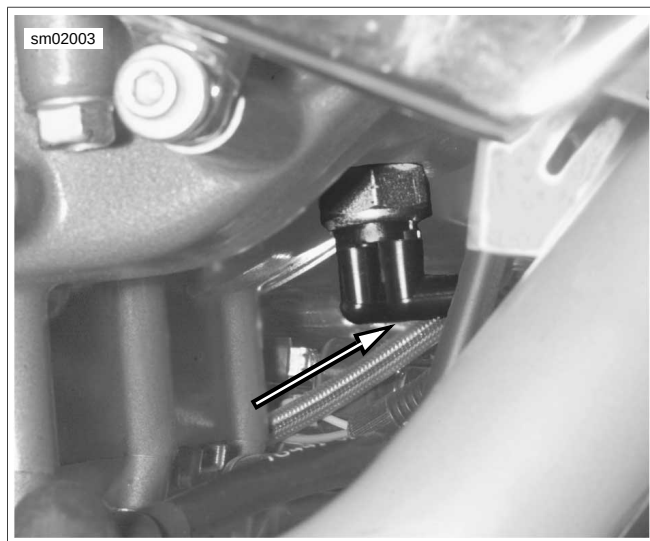

Figure 2-12. Neutral Light Sender Connectors [131]
50. See Figure 2-12. Remove connectors to neutral switch [131] under drive sprocket.
8. See Figure 2-12. Install neutral switch connectors [131].